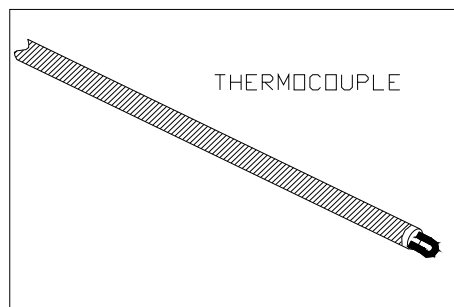

Figure 2-4. Thermocouple
2. See Figure 2.4. – M501TS Layout